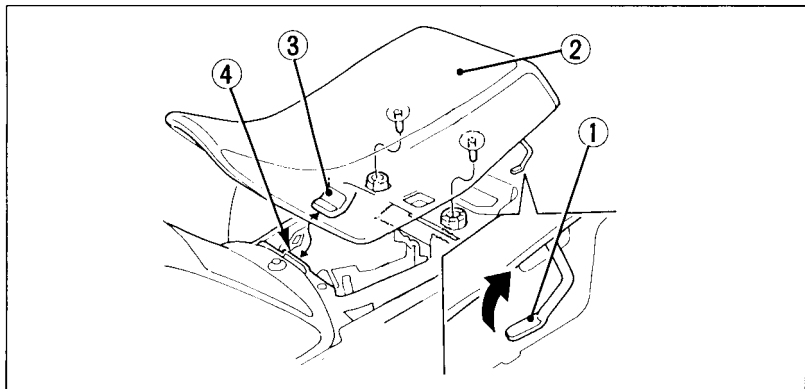

Fig. 4-34
To remove the seat (Fig. 4-34), pull up the seat lock lever (1) at the left side of the seat, then slide the seat backwards and lift it up.